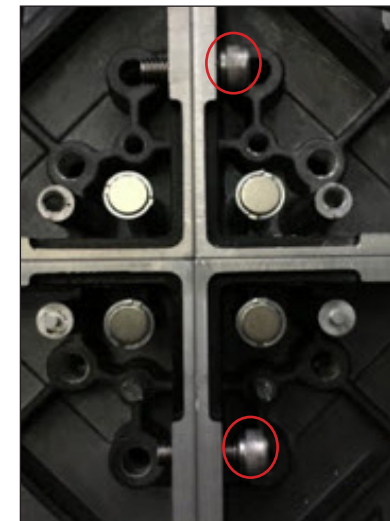

Figure 24: Assemble Panels with Screws
- Use a 5 mm Allen wrench and socket-head stitch screws to attach the panels together, but do not tighten the screws. Refer to **Figure 24**.